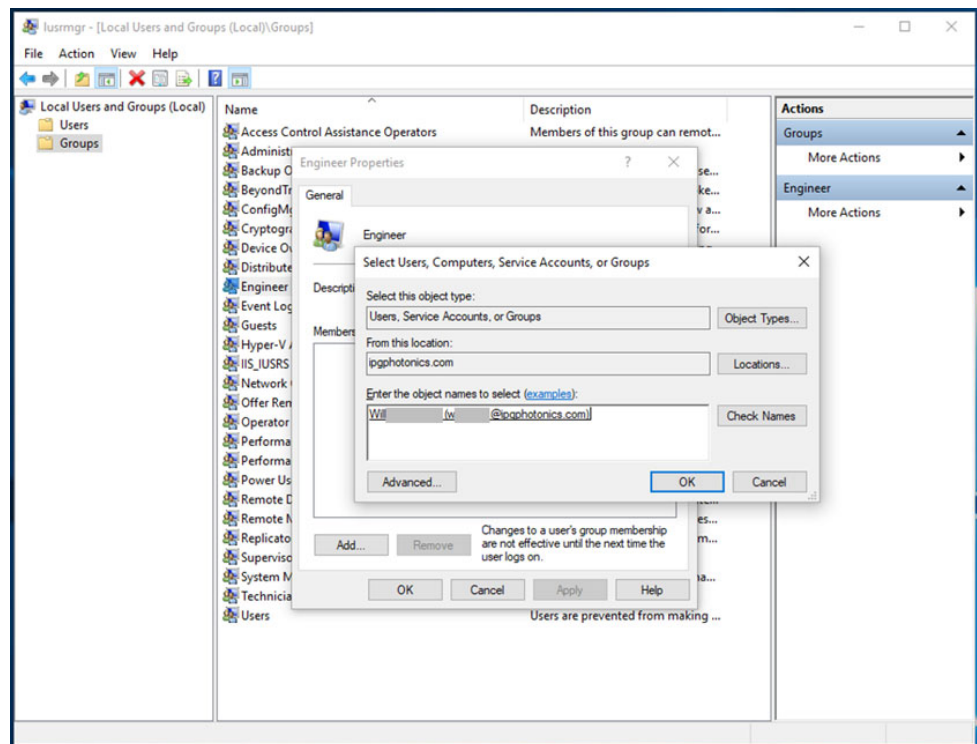

Figure 14: Adding a User to a Group
6. In the "Select Users, Computers, Service Accounts, or Groups" window, users can now be added to the group (see Figure 14 on page 36).